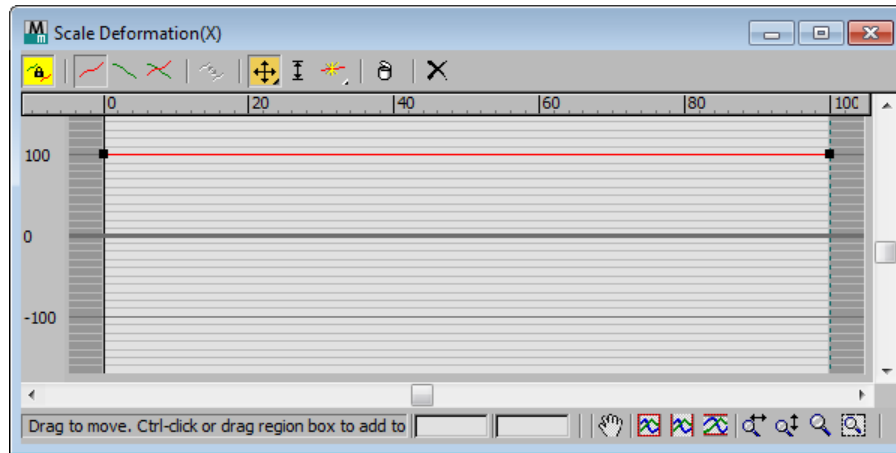

Figure 9-3 The Scale Deformation(X) dialog box
The **Scale Deformation(X)** dialog box is displayed, **Figure 9-3**. The horizontal red line represents the path steps along the X axis of the loft object. The left point of the line represents the first vertex of the path. The number in the ruler at the top represents the length of the path in percentage. The vertical location of the line in the dialog box represents the scale in percentage, as noted on the vertical ruler. The left and right vertices at the same vertical point (100) show that the loft object is not scaled.